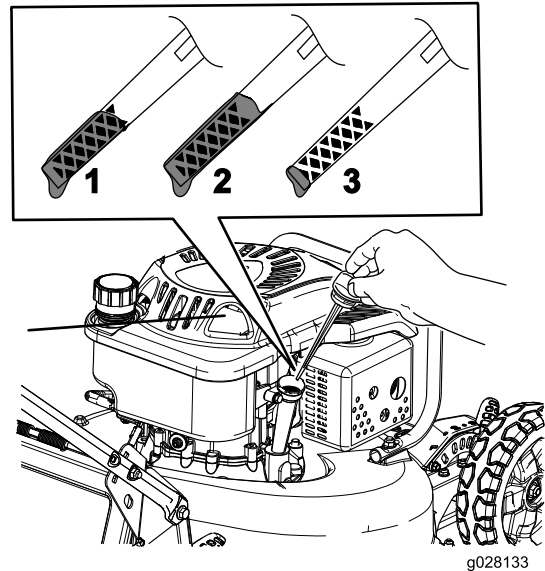

Figure 8
2. Remove the dipstick (Figure 8) and pour about 3/4 of the crankcase capacity of oil into the oil-fill tube.
5. Remove the dipstick and read the oil level on the dipstick (Figure 8).